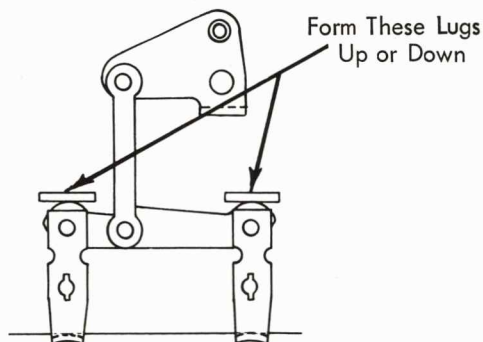
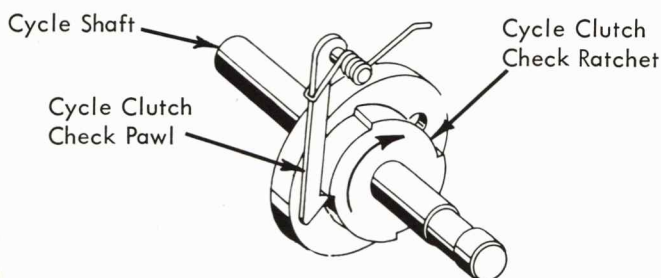

FIGURE 61. Selector Latch Stop Lugs
FIGURE 62. Latches Reset as Check Pawl Drops In
2. Tilt Selector Latches - Form the two stop lugs (Fig. 61) above the tilt selector latches so that the latches will reset simultaneously (under the latch bail) just as the cycle clutch check pawl drops into the notch on the check ratchet at the rest position (Fig. 62).